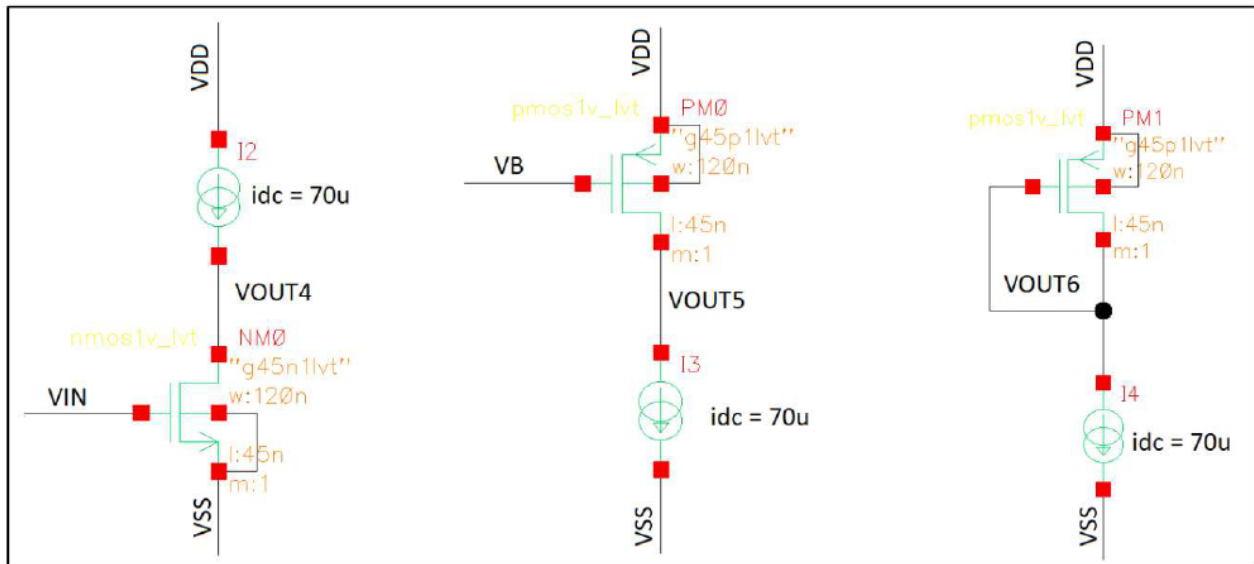

Figure 11. Method calculating Gain, Input max-swing and Output max-swing
- Students may use an ideal current source to determine the MOS device sizing, with V_{IN} , V_{OUT} and V_B properly configured to meet the specified conditions, as shown in **Figure 11**. **Note that MOS device sizing can only be modified by adjusting the multipliers and number of fingers, while the width and length must remain unchanged.**